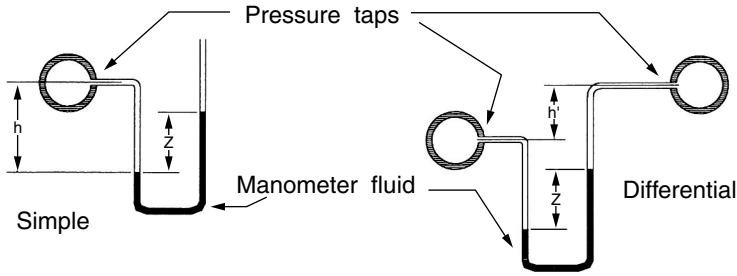

FIGURE M-1 Manometers.
**Manometer** An instrument for measuring fluid pressure, particularly water pressure in a pipe or other container. The simple manometer is a piezometer tube bent into a U-shaped loop and containing a manometer fluid such as mercury or oil; one end is connected to a tap in the pipe, and the other end is open to the atmosphere. *See* Figure M-1. The fluid pressure at the tap  $P_t$  is determined from the formula:
each end of the tube connected to a tap. *See* Figure M-1. If the fluid specific weight is the same ( $\gamma$ ) for both sources and  $h'$  is the elevation difference between the two taps, the pressure difference  $\Delta P$  is: